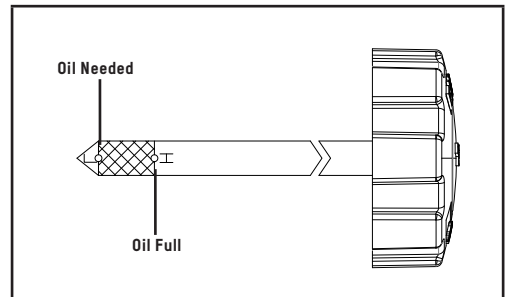

Figure 17B
3. Insert the oil cap/dipstick into the oil filler neck but do not screw it in, then remove it to check the oil level (Fig. 17B).
4. If the oil level is near or below the lower limit mark on the dipstick, remove the oil cap/dipstick, and fill with the recommended oil to the upper limit mark. Do not overfill (Fig. 17B).